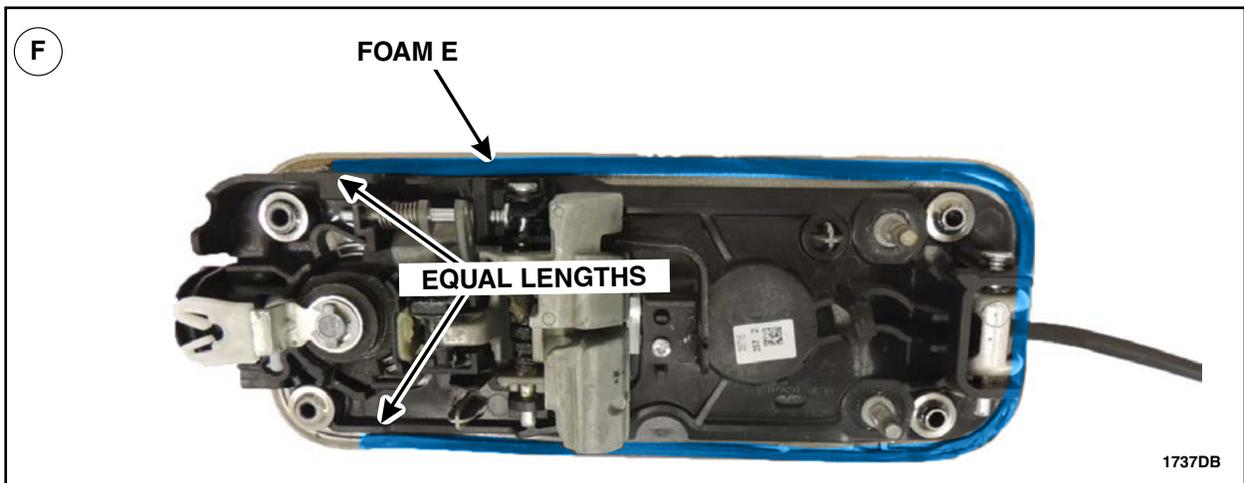

FIGURE 26
- F. Without stretching the foam adhere it to the exterior door handle ensuring that both sides of Foam E are of equal length once secured. See Figure 26.